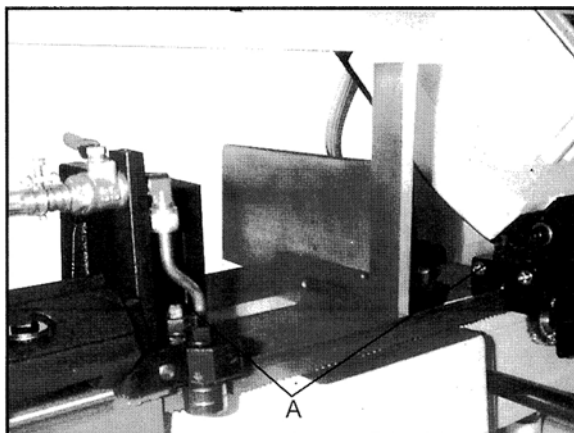

Figure 16
2. Place a machinist's square on the table and against the blade, as shown in Figure 16.
4. If adjustment is necessary, loosen bolts (A, Figure 16) and rotate blade guide assemblies slightly in the same direction until the blade makes contact with the square along its entire width.
5. Tighten bolts (A, Figure 16).